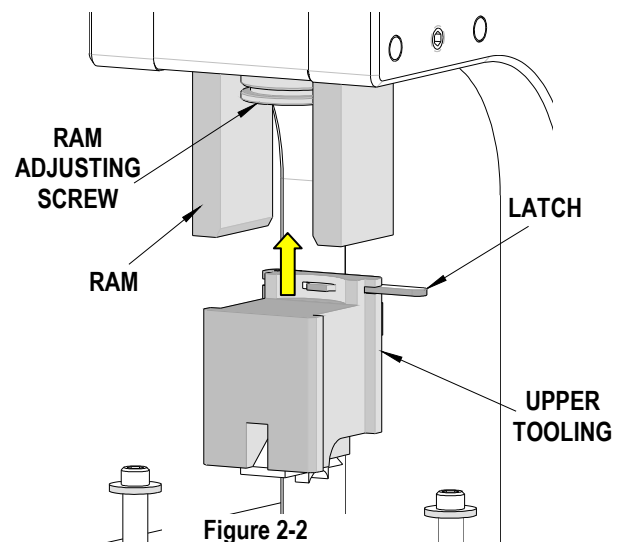

Figure 2-2
3. Slide the upper tooling holder with upper tooling, upward over the ram adjusting screw, until it comes to a stop. See Figure 2-2.